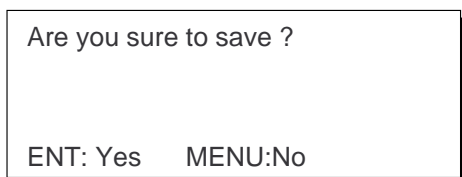

Figure 8-24
- Press ▶ to select Start. The message shown in Figure 8-24 appears.